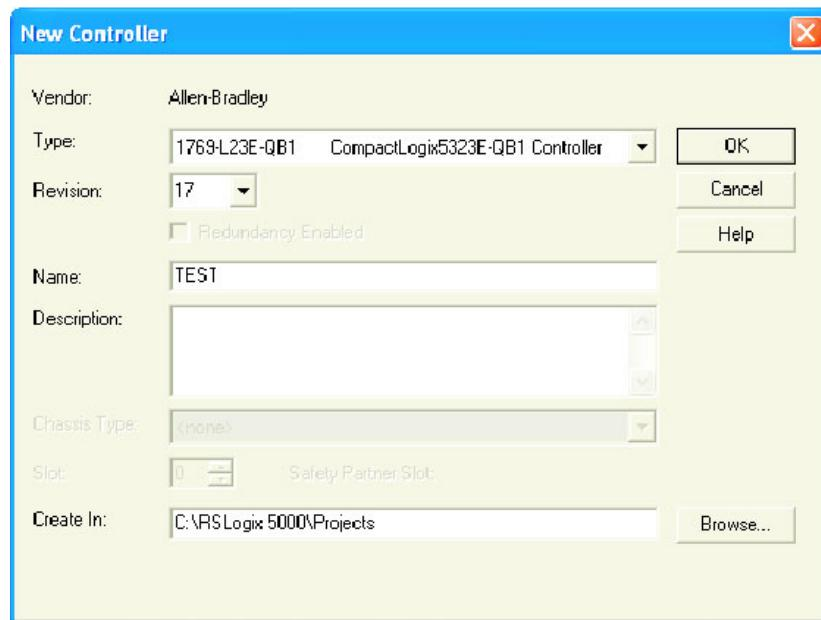

Figure 81 New Controller
- In the ‘File’ menu select ‘New’, or click on the ‘New Tool’ icon. The ‘New Controller’ window opens (Figure 81).